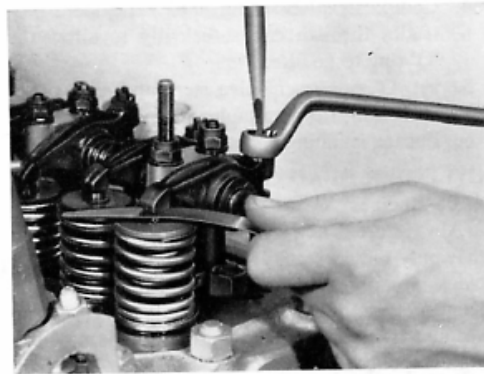

Fig. G.21.
18. Reset the valve clearances to 0.012 in (0,30 mm) cold (Fig G. 21). Fit the cylinder head cover.
Check valve clearances by placing the appropriate sized feeler gauge between valve stem and rocker lever tip, if any adjustment is necessary, slacken locknut and turn adjusting screw to increase or decrease the clearance as shown in Fig. G.21. When correct clearance is obtained, lock the adjusting screw and re-check the clearance, when satisfactory proceed to next valve in the adjusting sequence.